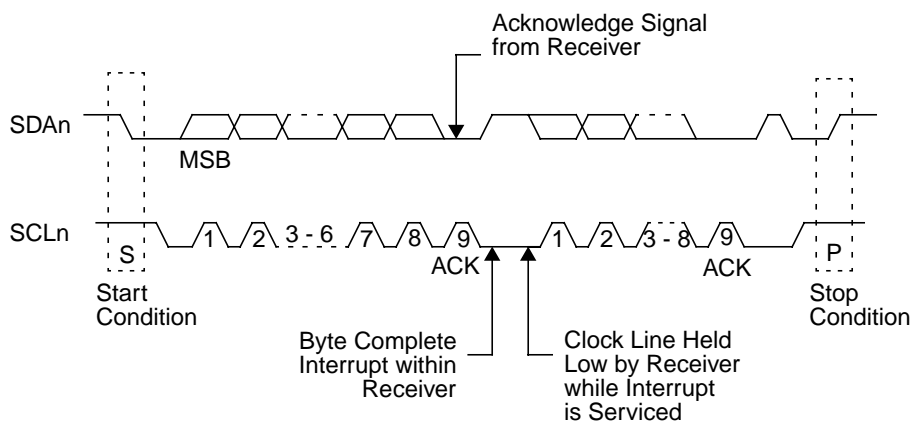

Figure 71. ACCESS.bus Data Transaction
- Acknowledge signal is sent by the receiving device (Figure 71)